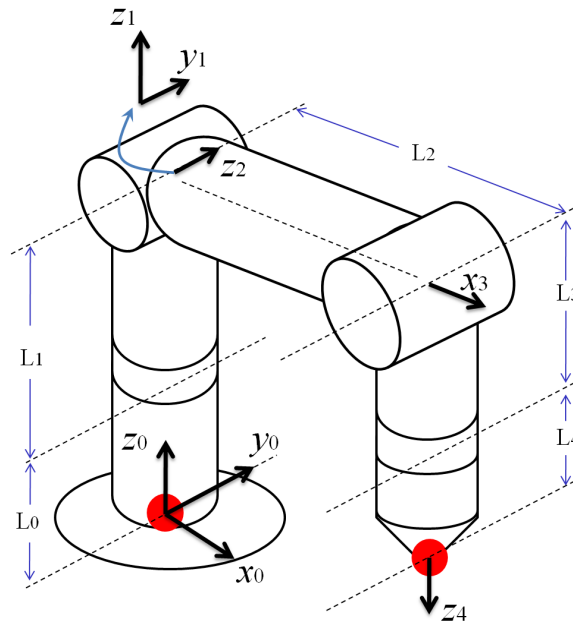

Figure 1.2: Schematic of the 4-DOF MICO robotic manipulator.
1. Using the procedure outlined in the background section for attaching coordinate frames to robotic manipulators, assign appropriate coordinate frames to the schematic of the MICO robotic manipulator in Figure 1.2. The base and end-effector of the arm are shown with red dots, and some axes are shown for simplicity.